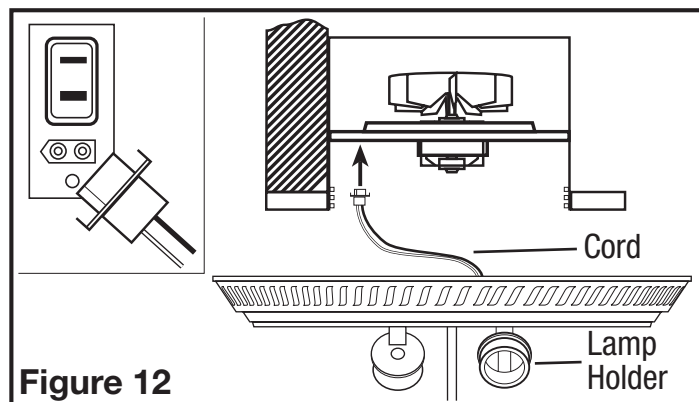

Figure 12
3. Plug cord from lamp holders into the appropriate receptacle (**Figure 12**).